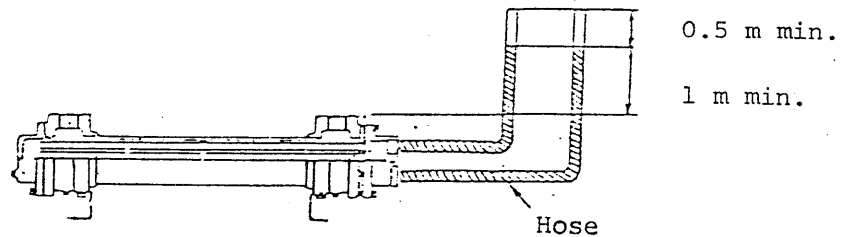
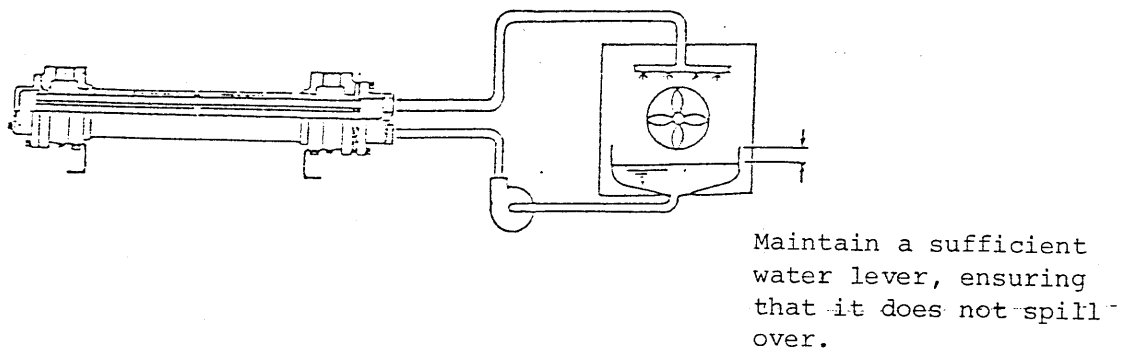

Fig. 7
Fig. 9
Chemical cleaning methods include static and circulatory methods. Of these, the latter is more effective. Also, in the case of the one-pass method, use the method shown in Fig. 7 or 8, while if a cooling tower is employed, use the method of Fig. 9.
- 2) Work procedure in case of Fig. 9